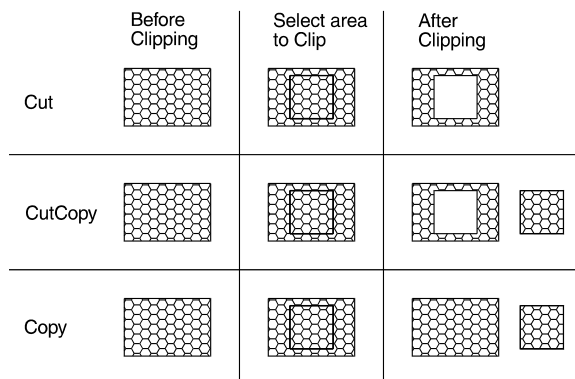

Figure 12.18: Different results from cutting, cutting and copying, and copying
6. Toggle Boundary on to leave the outline of the boundary in your drawing. (See the “After Clipping” examples for Cut and CutCopy in Figure 12.18 for an example of a boundary outline.)